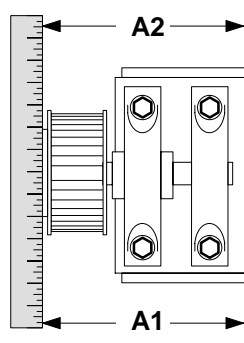

Figure 8 Idler Pulley Replacement - Adjusting Position on Shaft (Bottom View)
7. Place a straight edge horizontally across the bushing as shown in Figure 8 and adjust the pulley and shaft until distances **A1** and **A2** are the same as measured before you removed the pulley and shaft.